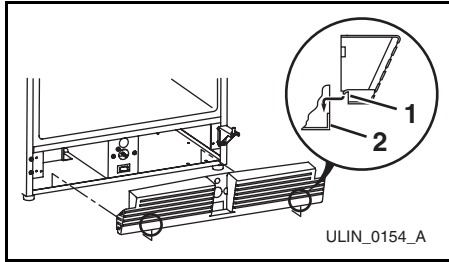

Figure 13
6. Place the two hook-hinges (**Figure 13, 1**) located on the rear bottom side of the grille onto the front lip of the unit base. Tilt the grille up into position and align the grille mounting hole with the grille screw hole on the cabinet.